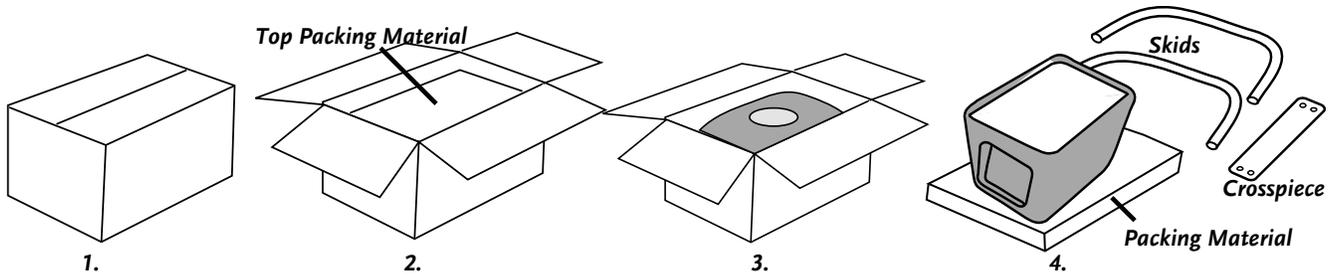

Figure 1
1. Open the shipping container and remove the top packing piece and place it near the shipping container (**Figure 1** on page 10).
3. Carefully lift the DR GENERATOR ATTACHMENT out of the shipping container and rest it upside down on the packing material from Step 1 (**Figure 1** on page 10).
4. Remove the two (2) Skids from the bottom of the shipping container (**Figure 1** on page 10).